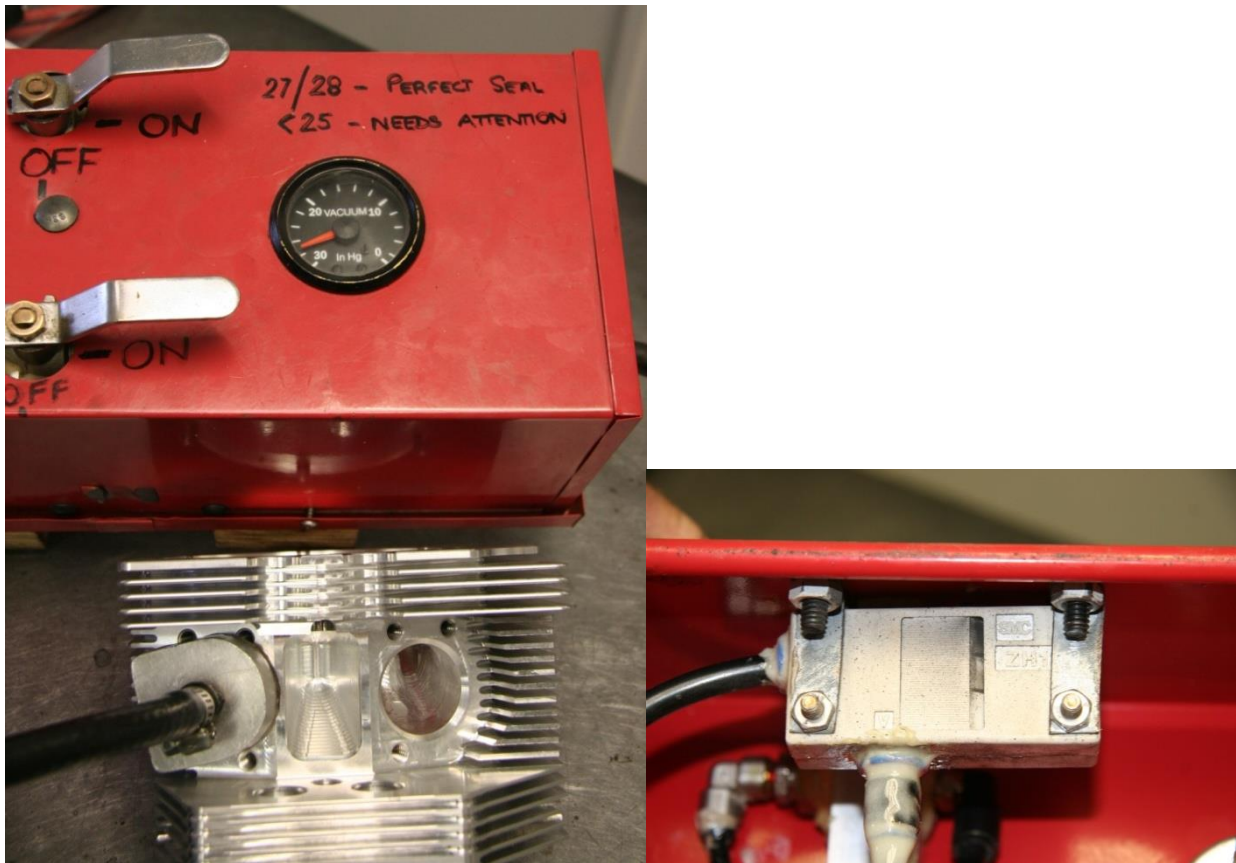

Figure 96 – Vacuum Test Rig
- After cutting the seal of the valves must be checked using a vacuum tester. This can be done without fitting the valve springs as the vacuum which is applied in this test holds the valve against the seat. Figure 96 shows a vacuum test rig. This system connects to the workshop's compressed air supply and uses a venturi effect within the silver box (right) to generate a partial vacuum. A fitting must be made to connect the vacuum tube to the cylinder head – we use a layer of insertion rubber to seal between the metal fitting and the cylinder head. Once operating the vacuum is assessed via a gauge. If the valve achieves 25inHg or less then the valve must be cut against the seat to improve the seal. Again, remember that the seats and valves must be cut as little as possible.